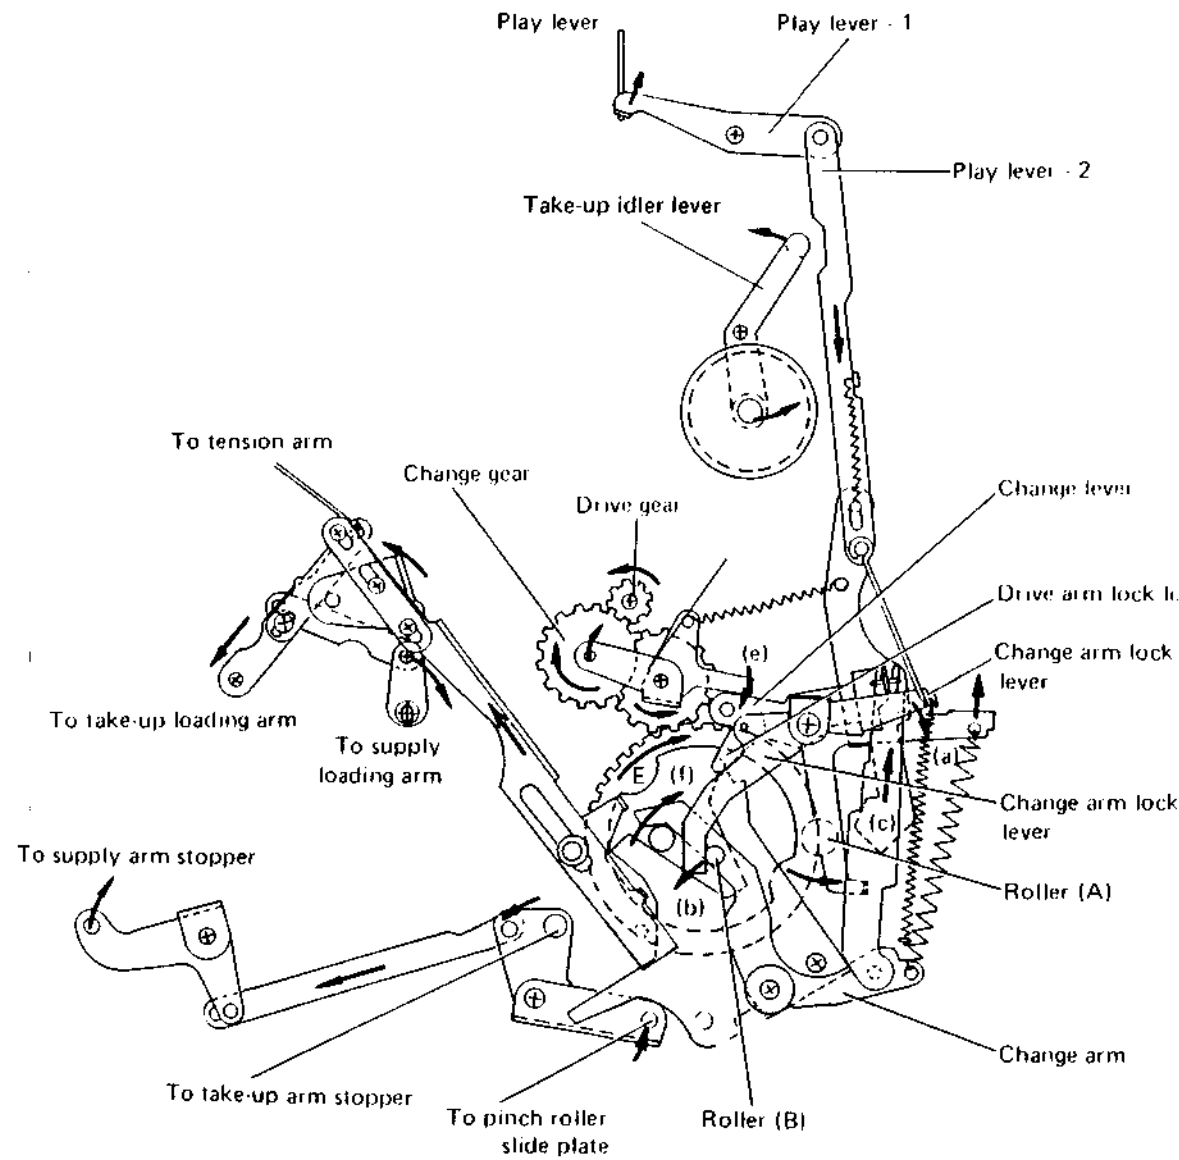

Fig. 2-14 Unloading mechanism (Bottom view)
Refer to Fig. 2-14, Unloading mechanism (bottom view). When the STOP key is pressed, from the Play mode, the play function mechanism is released from the lock, so that the play lever-1 and -2 which lock the change arm lock lever through the rod is moved to arrow (a) and the change arm lock lever is turned clockwise (a) by the force of spring. Also the drive arm lock lever releases from the drive arm; then the drive arm becomes free. When the change arm lock lever turned clockwise, the roller (B) fixed on the change arm becomes free so that the change arm turns counterclockwise (b) by the force of spring. At this time, the other side of the change arm moves to arrow (c), so that the change lever turned to arrow (e). As a result, the change gear is contacted with the drive gear by the rotation of the gear arm. Then, the